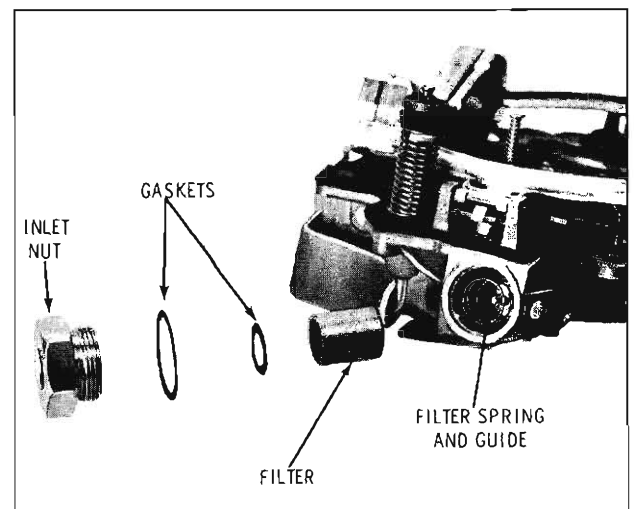

Fig. 4-155 Fuel Inlet Filter
2. Remove the fuel inlet nut and gasket, then remove the filter and gasket between filter element and back side of inlet nut. (Fig. 4-155)